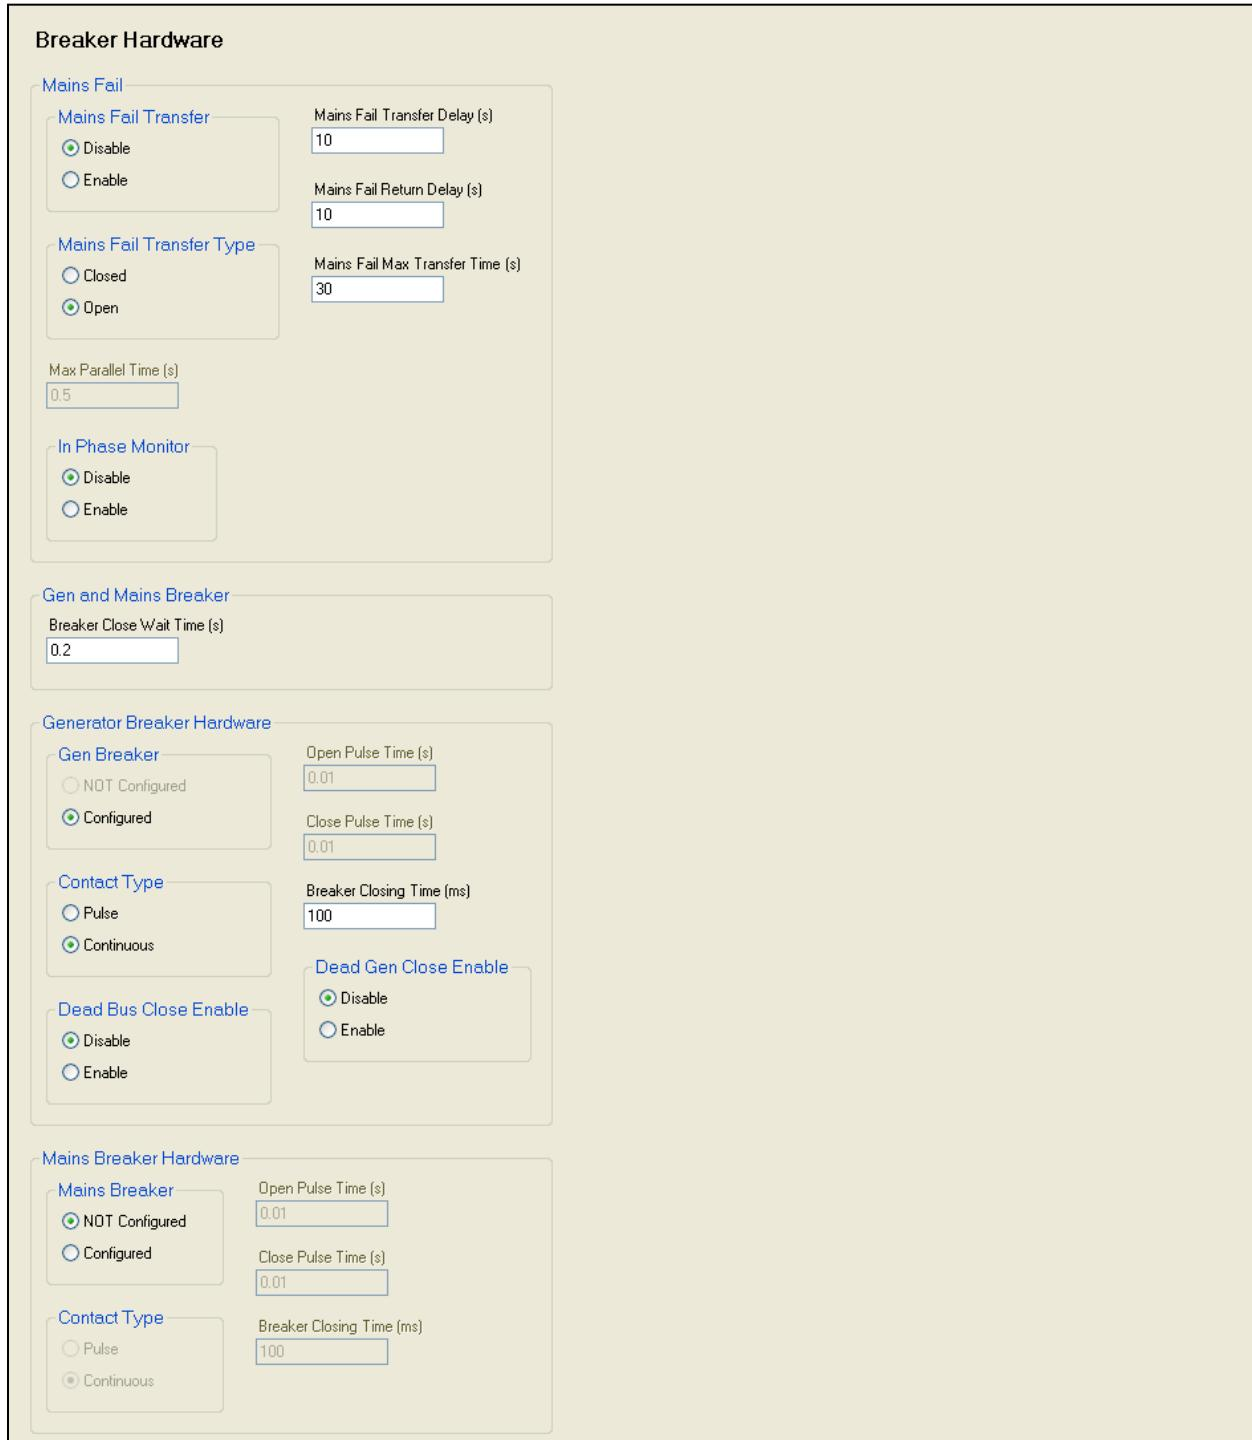

Figure 6-61. Settings Explorer, Breaker Management, Breaker Hardware Screen
- Click on *Breaker Management* then *Breaker Hardware*. On this screen, (Figure 6-61), enter the settings for the following parameters: